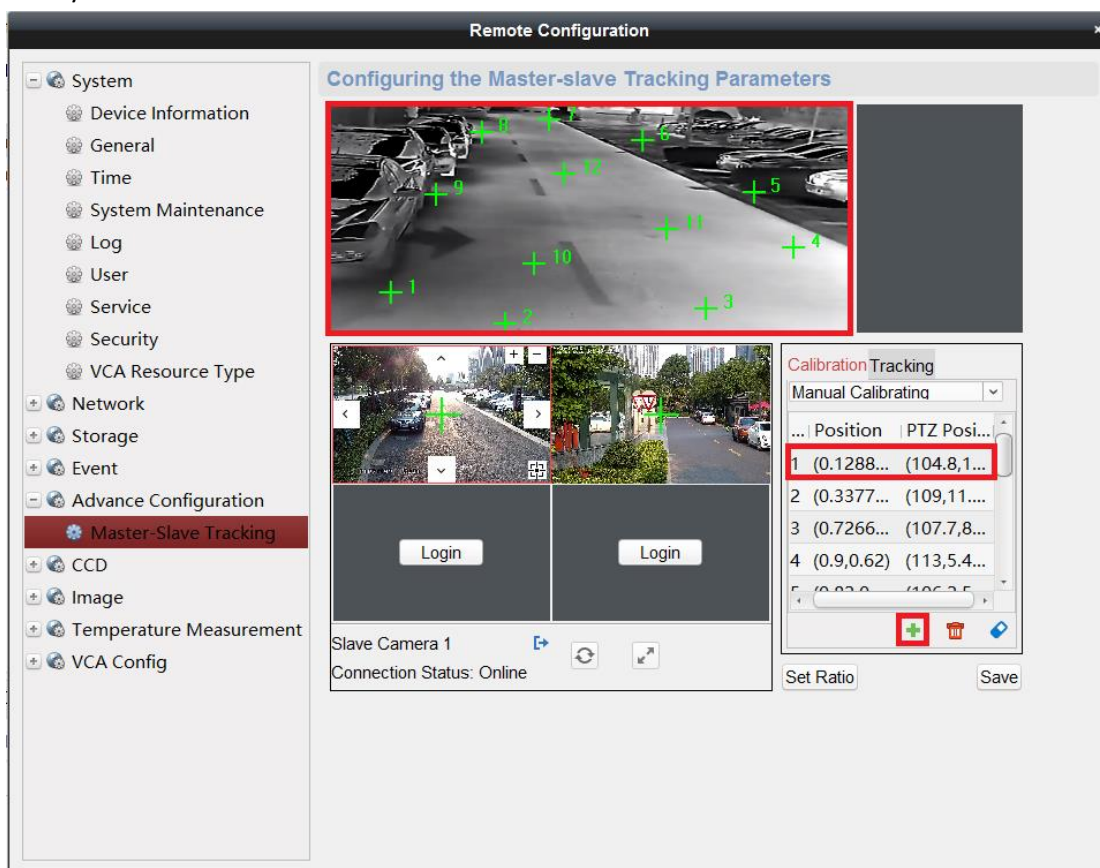

Figure 7
- We need calibration between thermal bullet camera and PTZ camera for Smart Linkage. Click to select the calibration tab page. Select **Manual Calibrating** from the calibration list. Select No.1 (change the picture) from the list and click **+**, a green cross appears in the center of the live view page. As the figure 7 shown, we recommend to set at least 6 points which evenly distributed in the thermal bullet camera's live view.